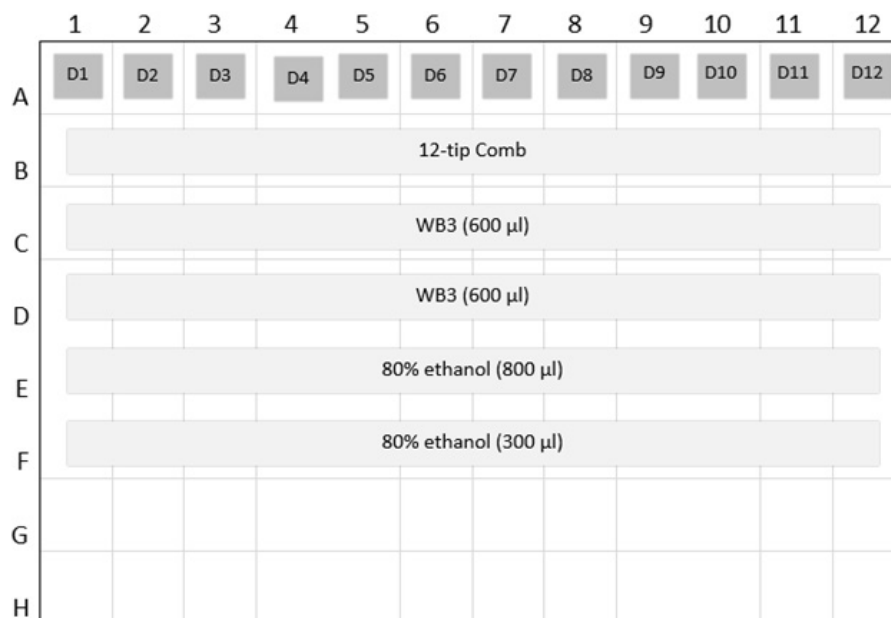

Figure 3. DNA Plate Layout.
16. Pipette each of the samples into Row A of the KingFisher Plate, following the layout in Figure 3.
17. Set up the remainder of the DNA Plate as shown in Figure 3. (Use as many wells as needed per number of samples.)